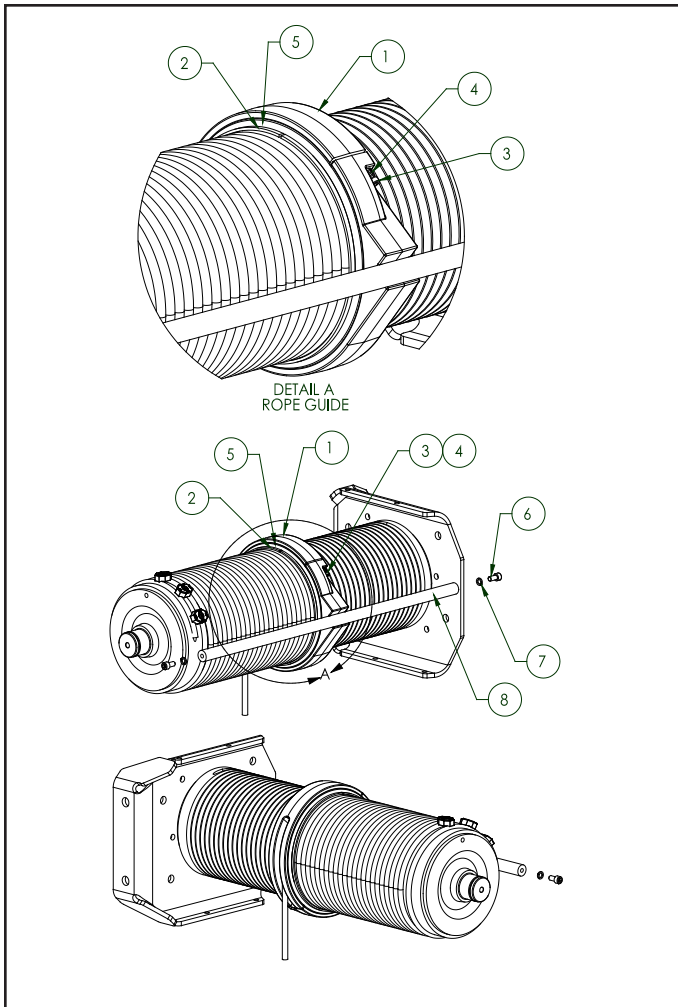

Figure 5-3a. Rope Guide Assembly ('B' & 'C' Frame)
b) **Disassembly for 'B' & 'C' Frame.** Refer to Fig. 5-3a. For further assistance in locating components, refer to the parts list in Section IX.
- (1) Remove socket head cap screws and lock washers (Items 6 and 7). Remove drum frame rod (Item 8).
- (2) Remove shoulder bolts (Item 3) and compression springs (Item 4). The two halves of the rope guide body (Item 1) can now be pulled off the drum separately. When reassembling be sure that the half with the rope slot is on the top half of the drum.
- (1) Thread rope to drum from trolley frame side then secure with rope clamps as follows:
- (2) With all personnel clear of hoist - TURN ON POWER.
- (3) Operate hoist "UP" guiding six (6) wraps of new rope into drum grooves with gloved hand.
- (4) Reinstall rope guide over rope in rope drum grooves as shown in Figure 5-3a. & 5-3b. and outlined in Section V, Paragraph 5-5. Continue lubricating as rope is spooled onto the drum until about 28'-0" remain unwound.